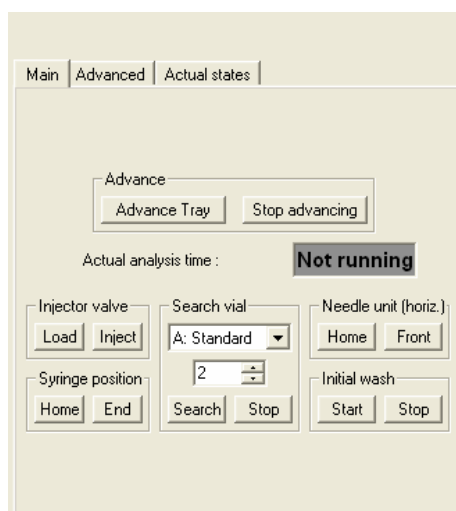

Fig. 2. Main screen ALEXYS AS 100 driver.
1. Push Syringe position “End” button in AS 100 interface of the ALEXYS data system (see Fig. 2).